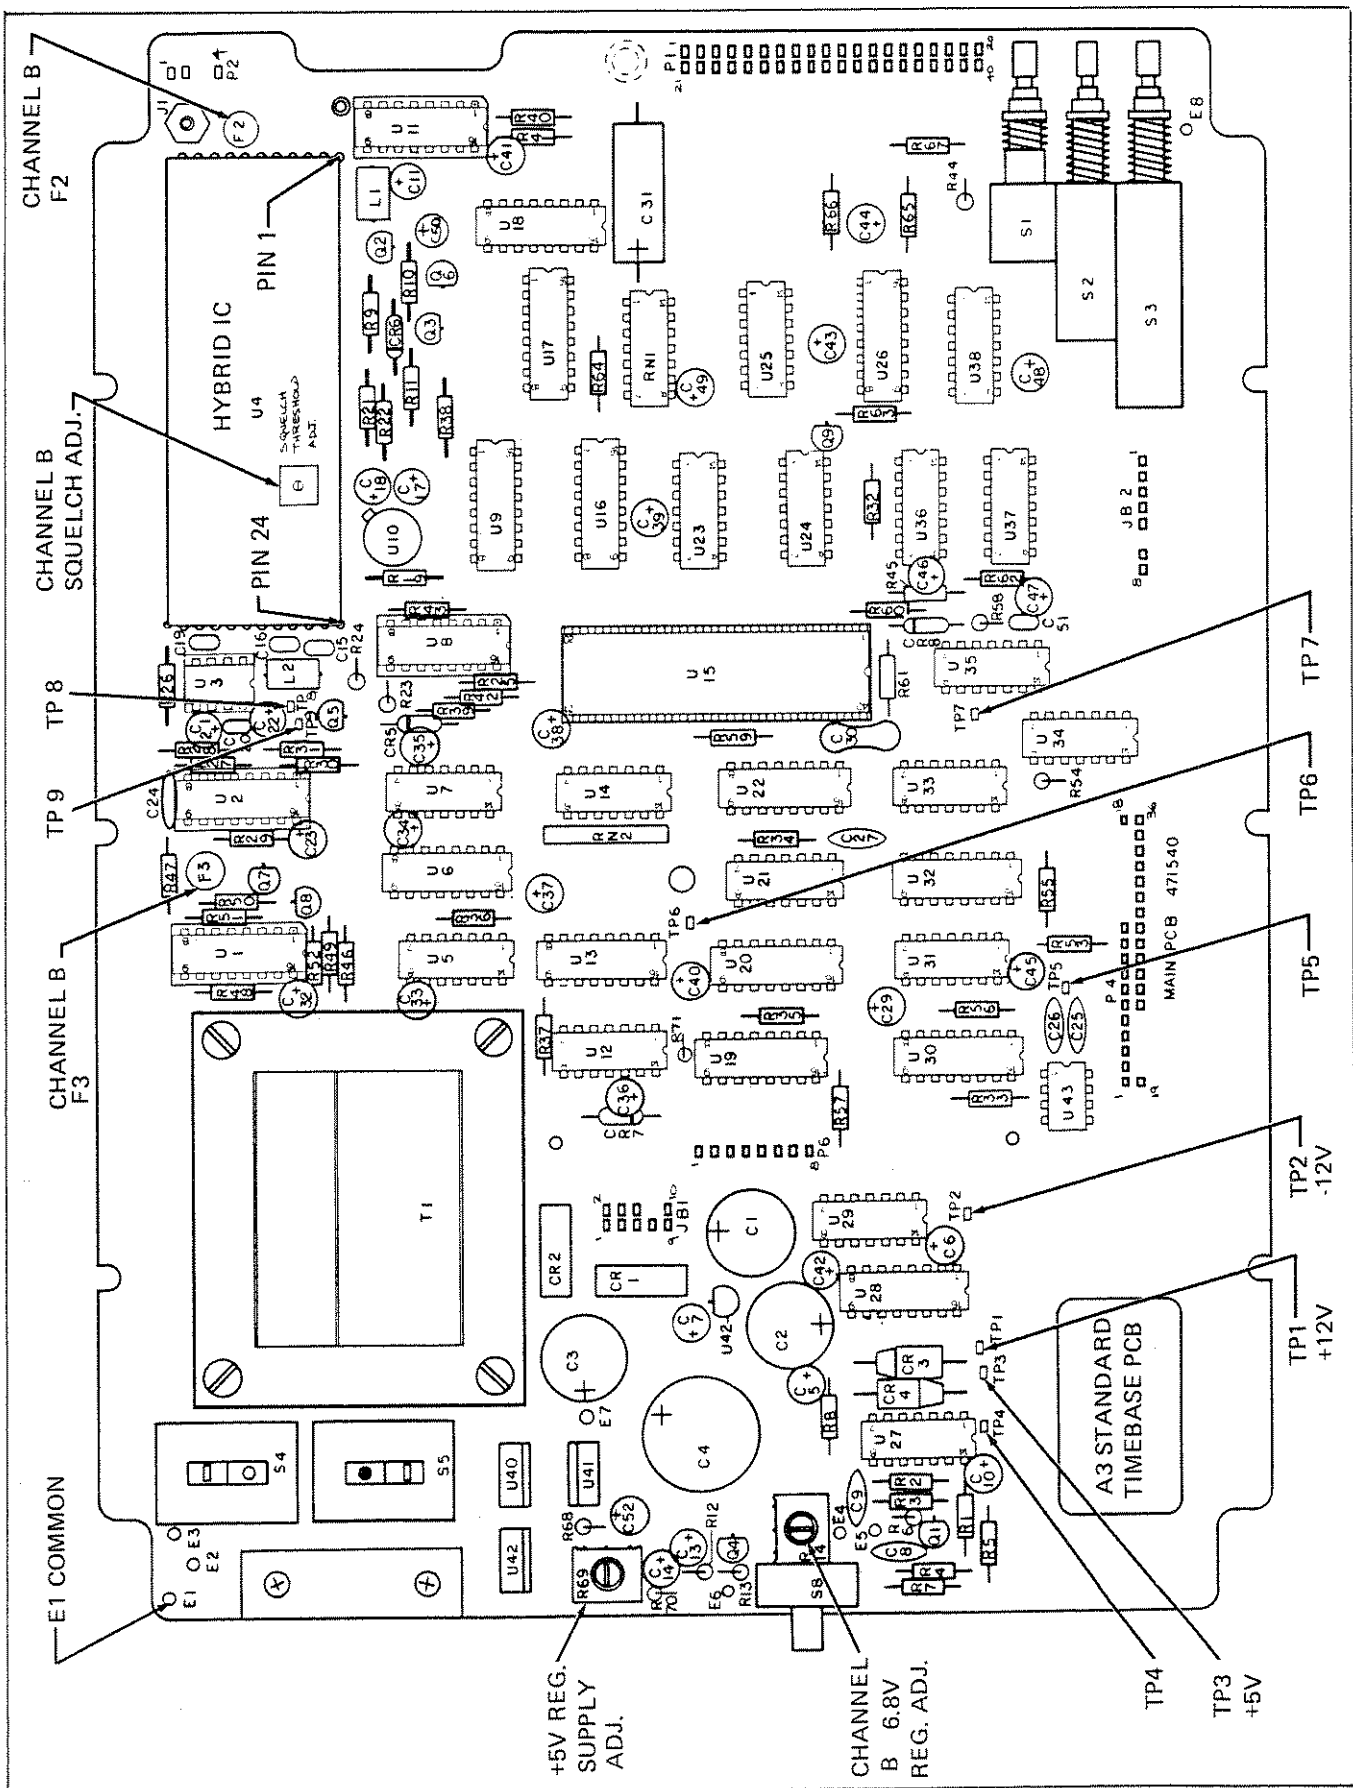

Figure 4-8. Main PCB Testpoint and Adjustment Location
See Figure 4-8 for location of test points and trim pots referred to in this procedure.
4. Turn the Squelch Adjust trimpot (located on the Channel B hybrid IC, U4; see Figure 4-8) fully CCW. Then adjust the trimpot CW until the 7220A displays 600 MHz.
See Figure 4-8 for the location of testpoints and identification of components. Use a 10X probe on the oscilloscope.